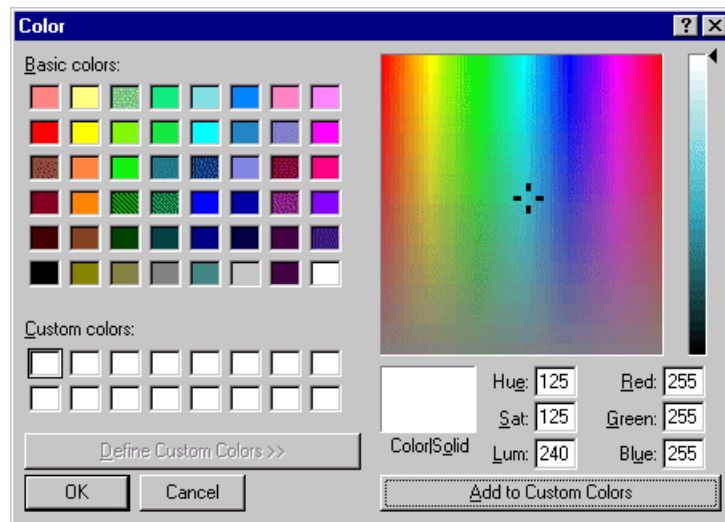

Figure 145. Color dialog box, with custom color controls shown
1. Choose **View | Color | Text** or **View | Color | Highlight** and the Color dialog box appears (Figure 145).